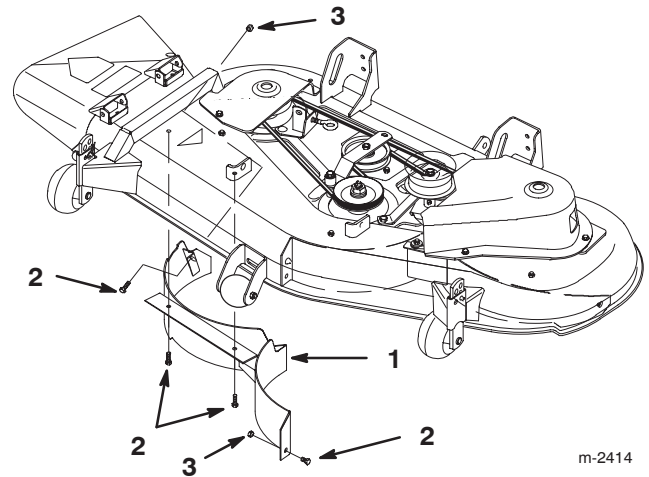

Figure 7
2. Remove lock nuts from top and center of right side baffle (Fig. 7). Lower baffle and slide out of discharge opening to remove.
3. Install previously removed 5/16–18 x 5/8” (16 mm) bolts and 5/16-18 locknuts in open holes of mower for safety (Fig. 7).